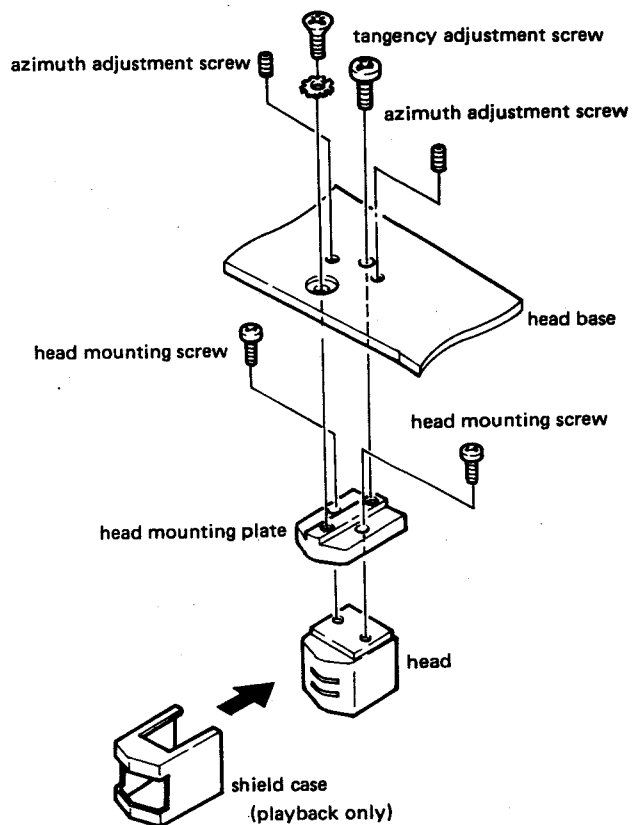

Fig. 2-23 Head mounting
1. See Fig. 2-23 for necessary connections.
3. Load the blank test tape TEAC YTT-8013 (NORMAL) or YTT-8053 (EE) and record a 400Hz, -12dB (195mV) signal in forward recording mode to reproduce it simultaneously.
1. 接続 Fig.2-23